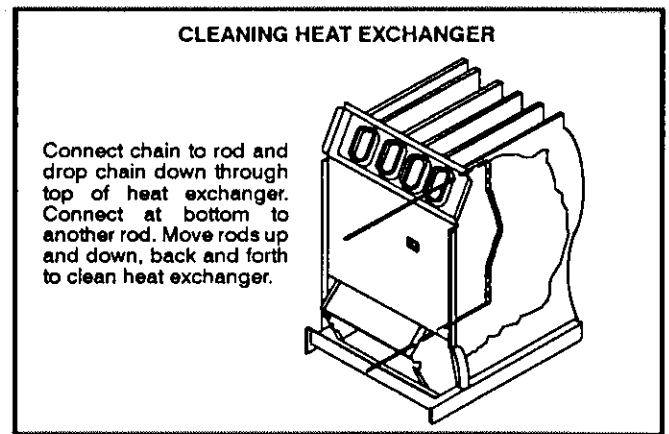

FIGURE 25
- 8- Insert a 2 ft. (600 mm) steel rod that has a 20 in. (508 mm) length of chain attached to one end into top opening of heat exchanger. See figure 25.